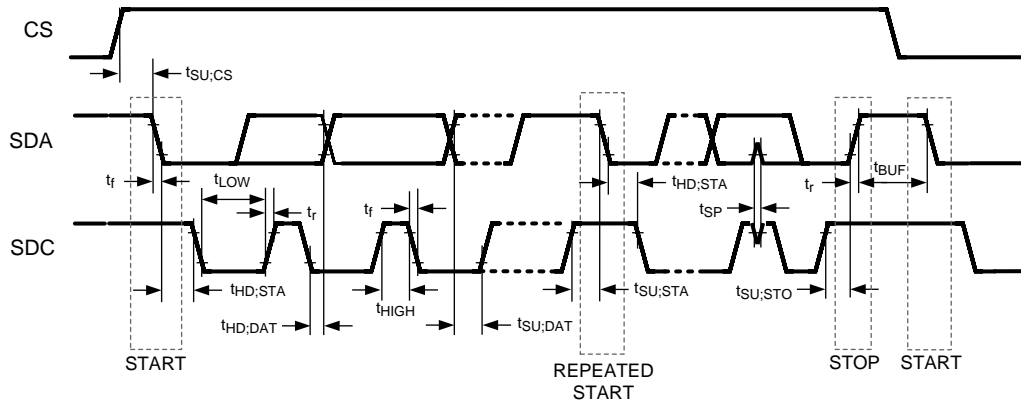

Figure 6. SMBus Timing Parameters
Serial Bus Interface Timing Specifications – (See <a href="#">Figure 6</a>) (4)(5)